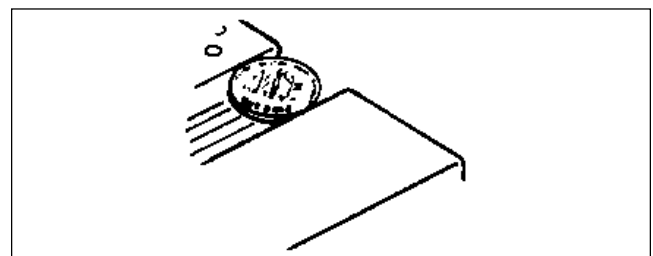

Figure 159
3. Rehang and level the door on the refrigerator. The gap between the door and cabinet should be 11/16", about the diameter of a dime. Check the gap in several places along each side. See Figure 159.